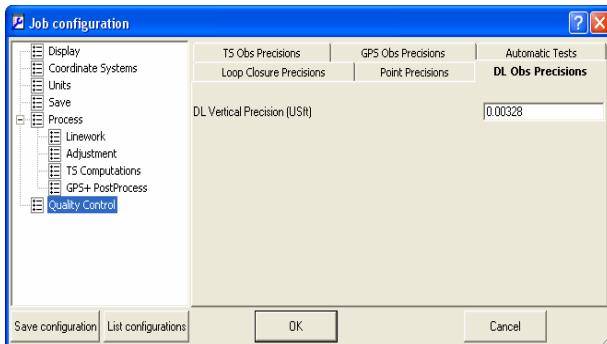

Figure 2-34. Job Configuration – DL Obs Tab
- The *DL Obs Precisions* tab sets precisions for digital level measurements (Figure 2-34). If the values of Ht Residual resulted from a net adjustment—with Rejection Criterion-By Control—are worse than the values set in this tab, the observations are highlighted in red on the *DL Obs* tab and Reports. These observations will no be used in the final adjustment of the net.
- The *Automatic Tests* tab sets which of the quality control tests to run instantly in the background and mark points and observations that fail the QC test in red (Figure 2-34 on page 2-22). Clearing any of the checkboxes will also clear red marks and textual descriptions on the QC tabs of the **Property** dialog boxes. When selecting a test, the test will first check existing data, then continue to run in the background. The following tests are available: